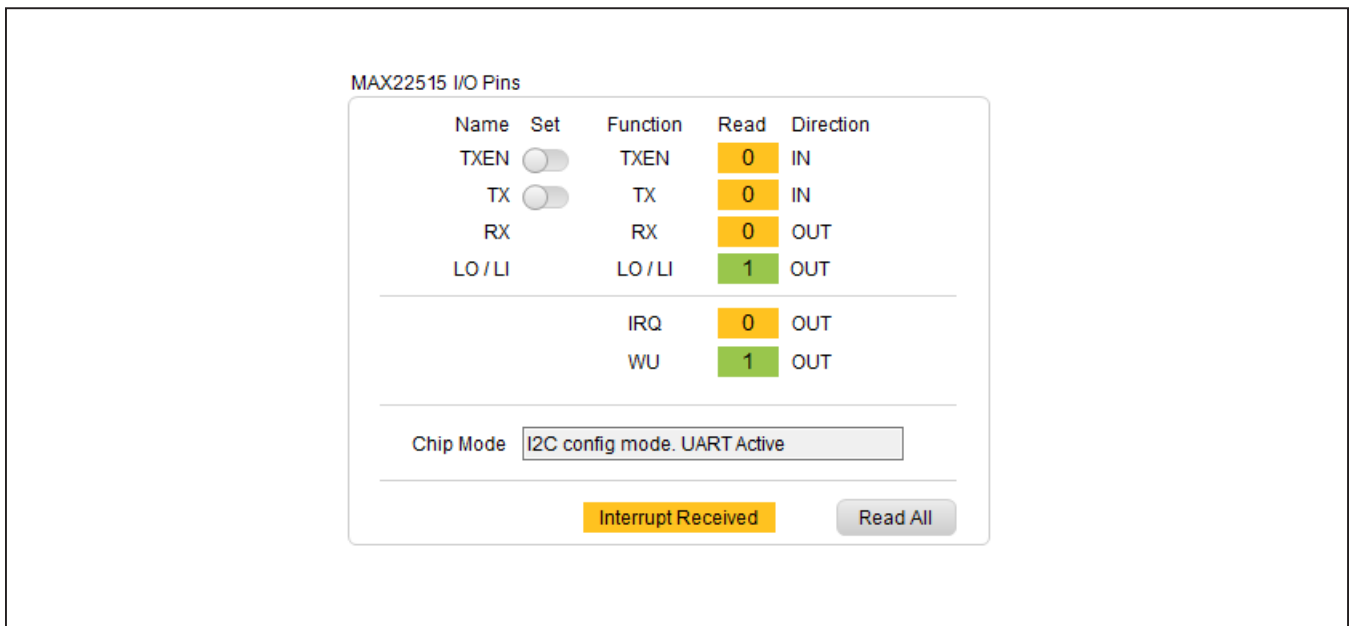

Figure 2. MAX22515 EV Kit Software, Interrupt Received
- 7) Verify that **Status: MAX32660 Connected, MAX22515 ADR = 0x68** is displayed on the status bar at the bottom left of the main window (Figure 2).
in the I/O Pins box stating “Interrupt Received” (Figure 2). Read the INTERRUPT register to clear the interrupt and deassert WU/IRQ.